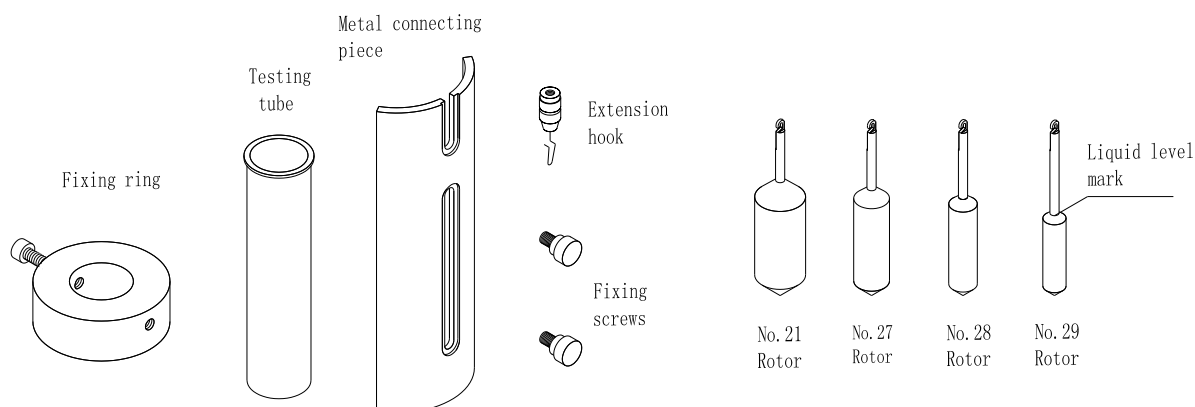
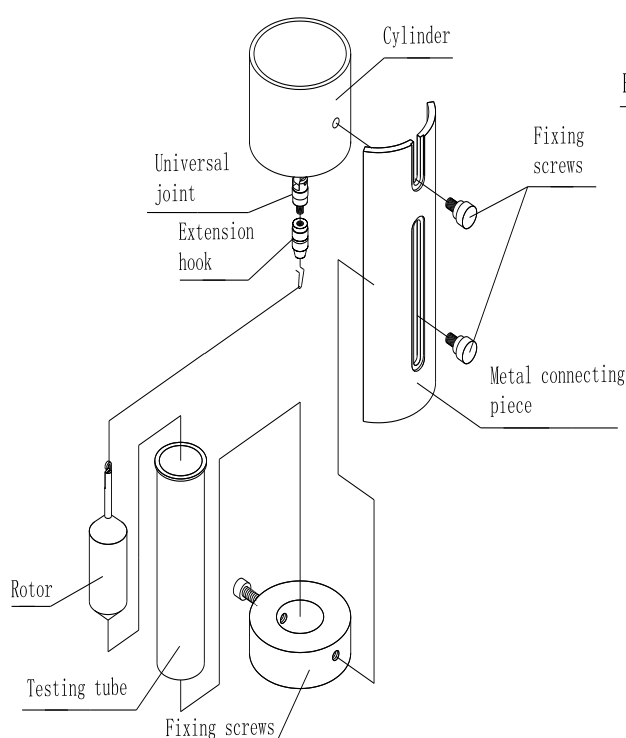

Fig. 8
Fig. 9
(1) The rotor part of viscometer consists of a fixing ring, a testing tube, a metal connecting piece, an extension hook, fixing screws and four rotors (#21, #27, #28 and #29), as shown in Fig. 8.
(2) Prepare the tested sample and control the temperature of the tested liquid if possible. Transfer a suitable amount of the tested sample into the testing tube as per the rotor selected (see Tab. 1).
(3) Screw the extension hook into the universal joint **clockwise (counter-thread)** as per Fig. 9, and select and hook a rotor according to the sample viscosity range.
in Fig. 8.